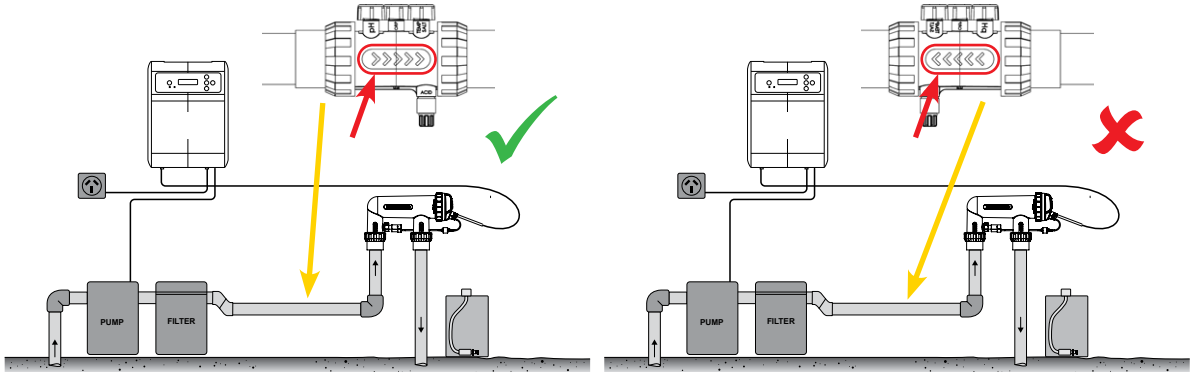

Figure 4.6
- The housing is installed so as water flow moves in the correct direction, shown by arrow markings on the housing (refer Figure 4.6)